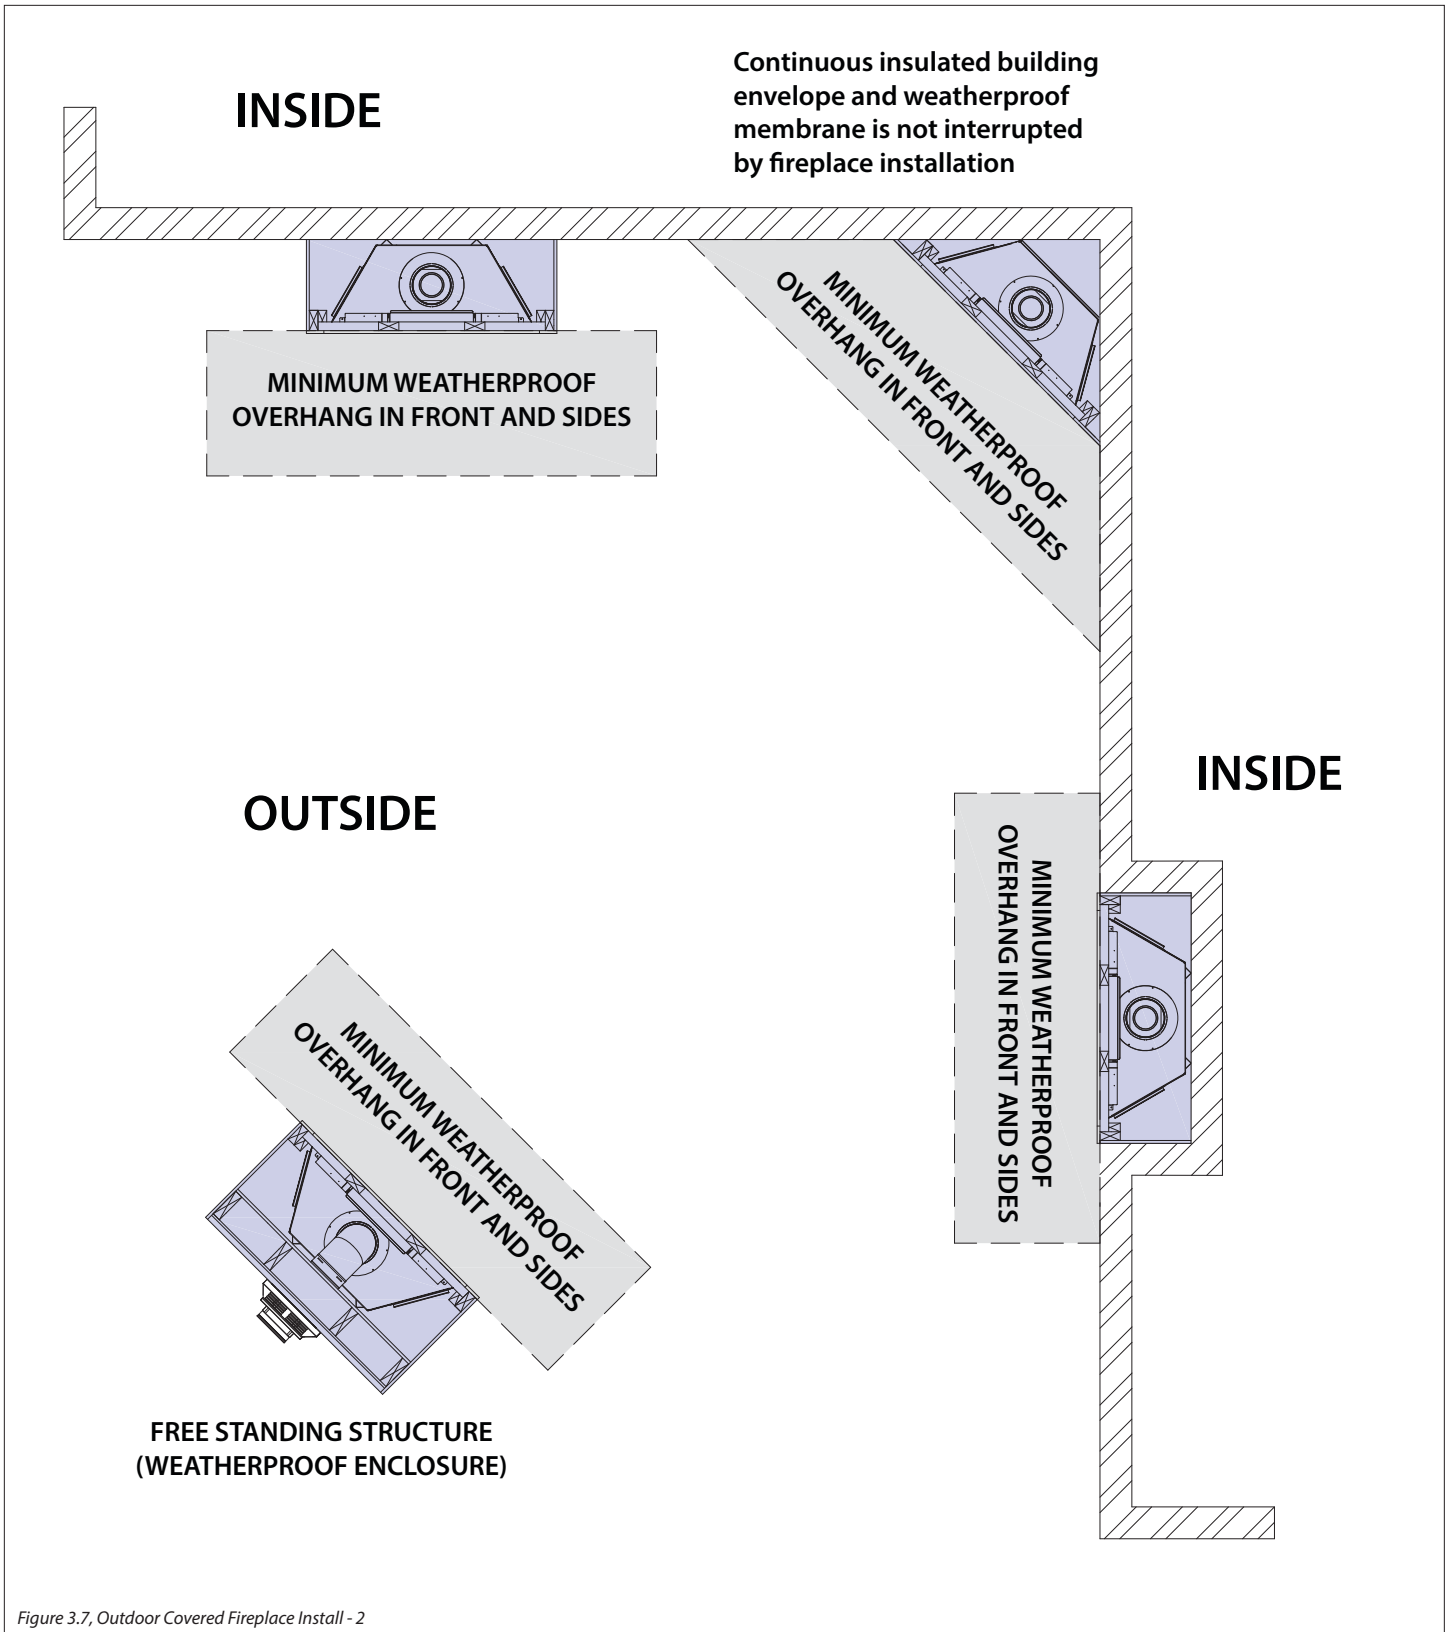

Figure 3.7, Outdoor Covered Fireplace Install - 2
- The continuous insulated building envelope and weatherproof membrane are not to be interrupted by fireplace installation. See Figure 3.7 on the following page.